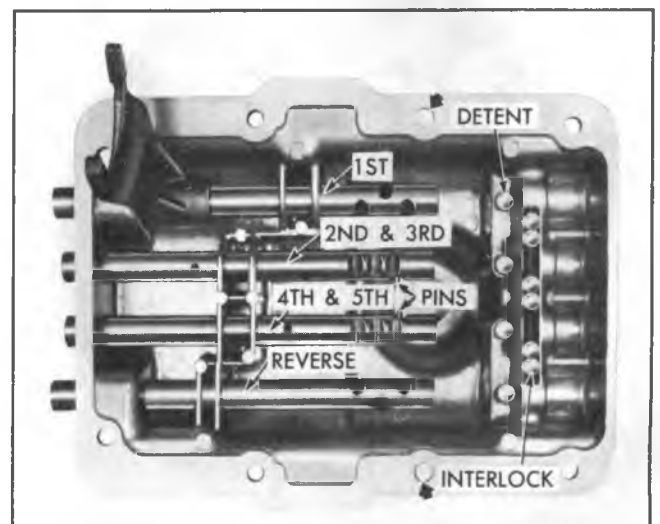

Fig. 5NP-Shifter Shaft Installation
- Install shifter shaft detent springs and balls and interlock ball and pins (fig. 5NP). Depress detent balls with small punch and press shafts over balls. Turn shafts, if necessary, to position balls in grooves in shifter shafts.
4. Align holes in cover with holes in case and install a shouldered dowel screw, with lock washer, in the second hole from front in each side of cover (arrows, fig. 5NP).